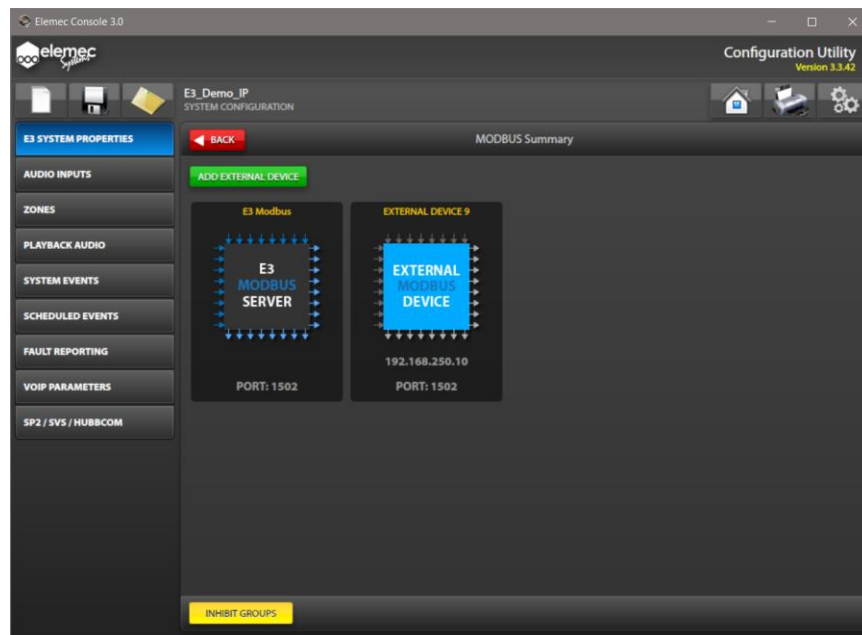

Figure 60. MODBUS Summary
1. Click the MODBUS button from the SYSTEM PROPERTIES screen to access the MODBUS SUMMARY screen (see Figure 60).